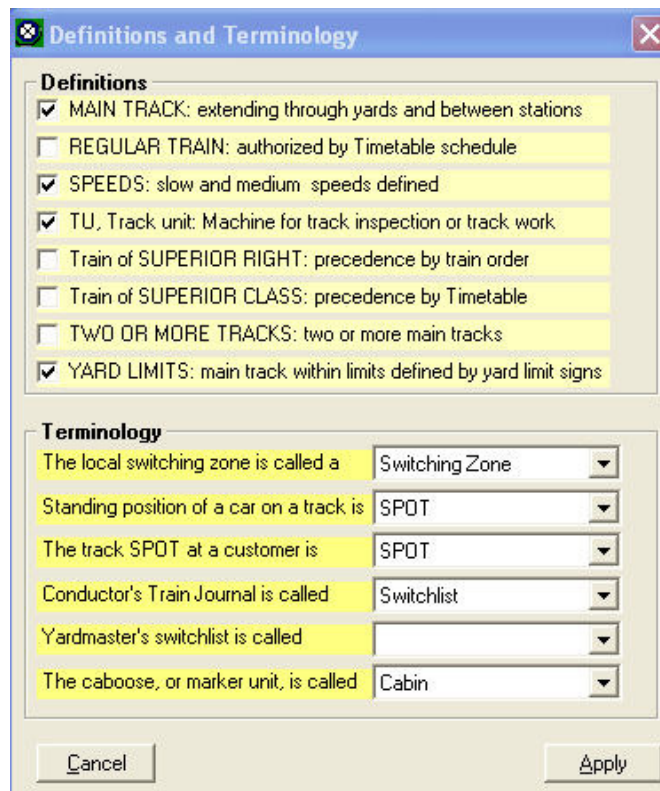

Figure 1-11
1. On the ProTrak toolbar, click on "Administration", then choose "Definitions and Terminology" from the dropdown list. A window like the one shown in Figure 1-11 will appear.
If any of the items shown in your window do not match those shown in Figure 1-11, change the item to bring it into line with what we will be using.